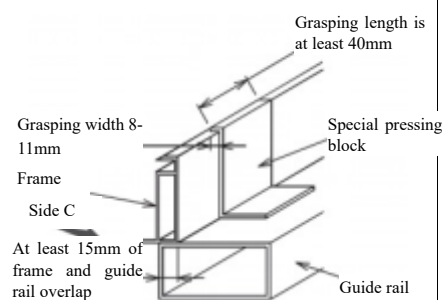

Fig. 6 Requirements for Installation of Clamp for Overlapping Long Frame of guide rail
- ⑧ The PV module shall be fixed by using professional solar clamp (as shown in Figure 6), and the overlapping part between the surface C of PV module and the guide rail shall be $\geq 15\text{mm}$. If improper clamp or incorrect installation method is used, the warranty of HY SOLAR will be invalid.
- ⑨ For the modules with the length of more than 2.2m or the width of more than 1.3m, it is recommended to use the clamp with special anti-skidding design. If it is attached to the arc-shaped pressing surface of side A of the frame, or with the structure design of clamping, the clamp shall meet the requirements of length $a \geq 60\text{mm}$, thickness $\geq 5\text{mm}$, material 6005-T6, $Rp0.2 > 225\text{MPa}$, and $Rm \geq 265\text{MPa}$. Technical requirements and details of pressing blocks can be consulted by after-sales service team of HY SOLAR.